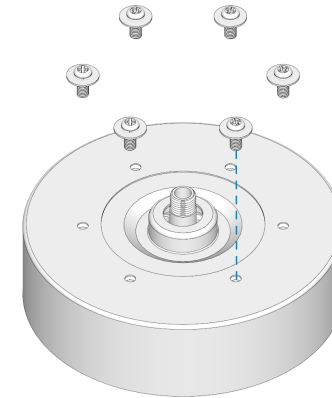

Fig. 2.1
2.1 Remove the blade screws from the motor head. Align two blade holes with the corresponding screw holes on the motor head, and secure the blades using the blade screws, as illustrated in Fig. 2.1.